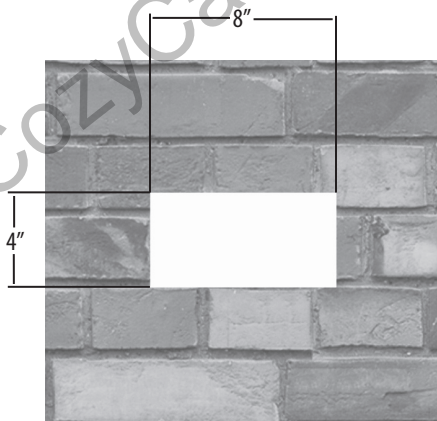

Figure 4
3. The hole should only be as large as necessary to pass the two flex lengths through the masonry wall into the existing chimney flue. **IMPORTANT:** Avoid removing too much material, as this could weaken the chimney structure. The approximate hole size should be 8" (width) x 4" (height). **(Fig.4)**.